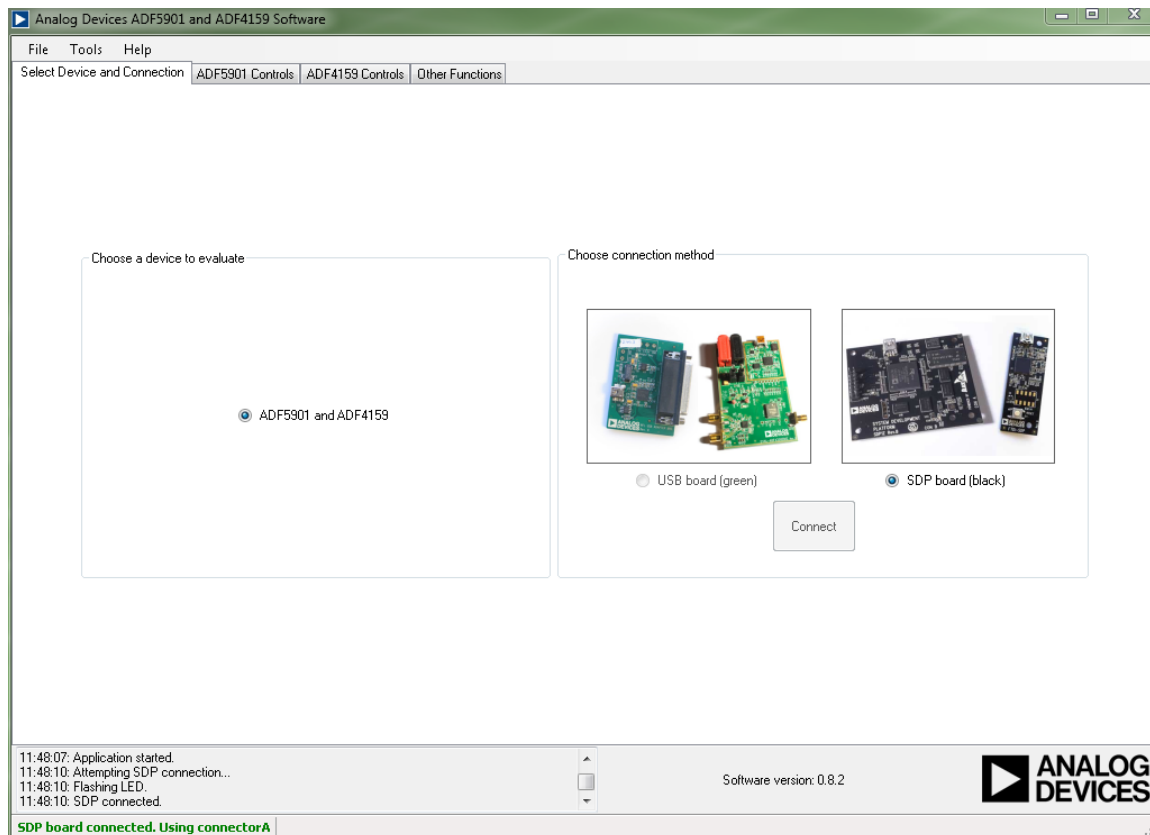

Figure 2. Software Front Panel Display—**Select Device and Connection**
6. Choose ADF5901 and ADF4159 and **SDP board (black)** in the **Select Device and Connection** tab of the software front panel window (see Figure 2).
7. Ensure that a **SDP board connected** message appears on the front panel (see Figure 2).
4. Select the USB board and the ADF5901 device in the **Select Device and Connection** tab of the software front panel window (see Figure 2).